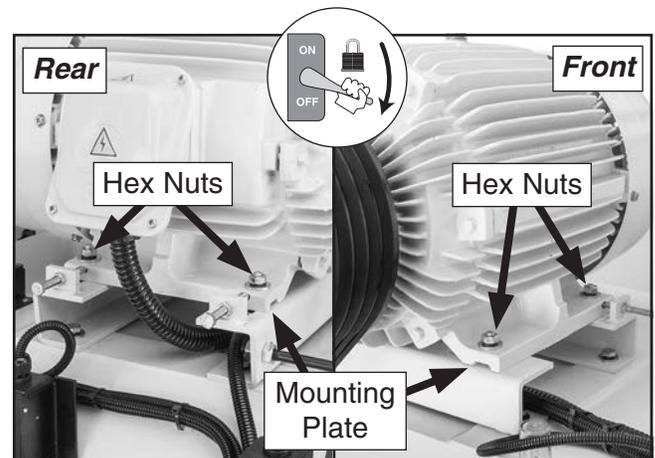

Figure 97. Location of upper cutterhead motor mounting hardware.
4. Loosen hex nuts on hex bolts that secure motor to mounting plate (see **Figure 97**).